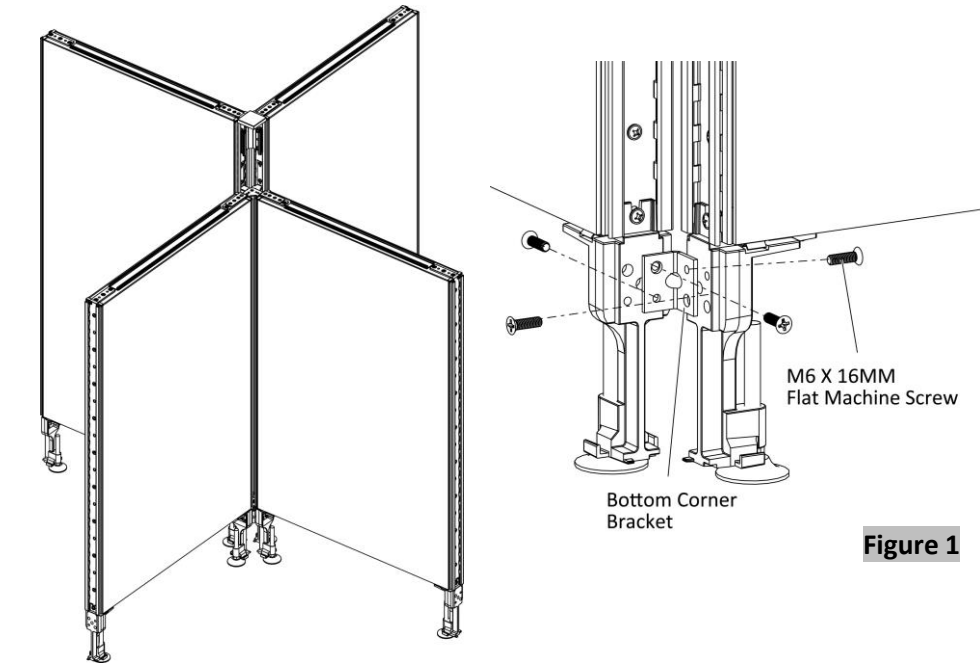

Figure 1
- 2. Securely fasten the bottom corner bracket to the panel legs with four M6 X 16MM Flat Machine Screws, (Figure 1).